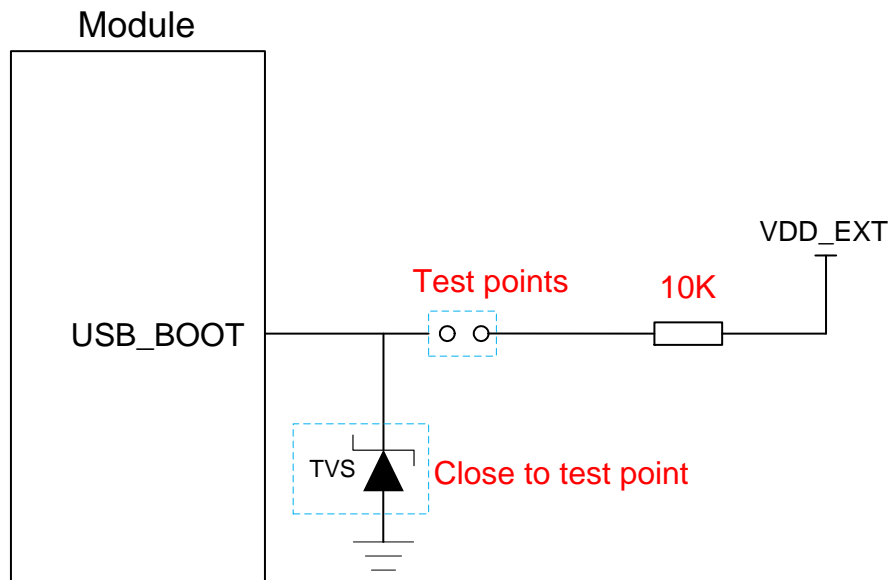

Figure 31: Reference Design of USB_BOOT Interface
3. When using MCU to control the module entering emergency download mode, follow the above timing. Connecting the test points as shown in **Figure 31** can manually force the module to enter download mode.